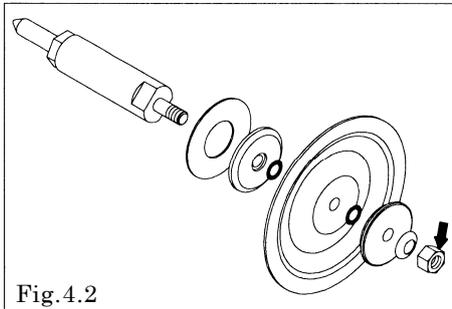

Fig. 4.2
- Pull out the diaphragm, center disk and center rod from the main body. [Fig. 4.2]
- Remove the nut, and remove the center disk, diaphragm and O ring (□T type, 10□C, 10□N) from the center rod. [Fig. 4.2]